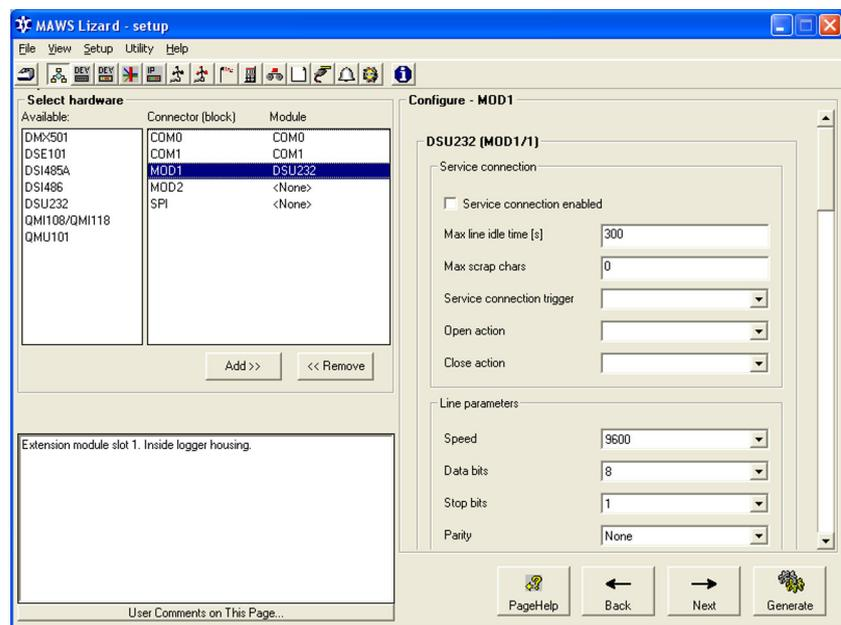

Figure 59 Optional Hardware View: Configuring Communication Module
1. Add and configure the communication interface module using the **Optional hardware** view as shown in Figure 59 on page 113.